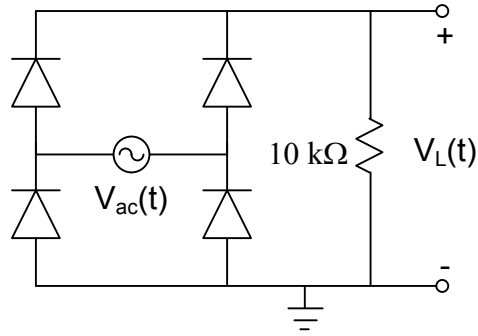

Fig 4. Full Wave Bridge Rectifier
*Full Wave Bridge Rectifier:* The circuit shown in Fig. 4 is a full wave rectifier. As discussed in class, the resistor shown in the circuit conducts current during both the positive and negative cycles of the sinusoidal input. Note that the peak voltage drop across the resistor is  $V_m - 2V_D$ , where  $V_m$  is the maximum amplitude of the sinusoidal input and  $V_D$  is the voltage drop across the diode.
To build the circuit shown in Fig. 4, the trigger from the function generator to the oscilloscope must be disconnected. Also, DC couple the output to the oscilloscope to see the rectified output average and peak-peak values.
5. Construct the circuit of Fig 4 in PSpice. Run a transient simulation using a sinusoidal source with 5 V amplitude and 1 kHz frequency. Plot the voltage drop across the resistor and include it in your report. What is the peak voltage drop across the resistor? How does the circuit performance differ from the one in step 3?